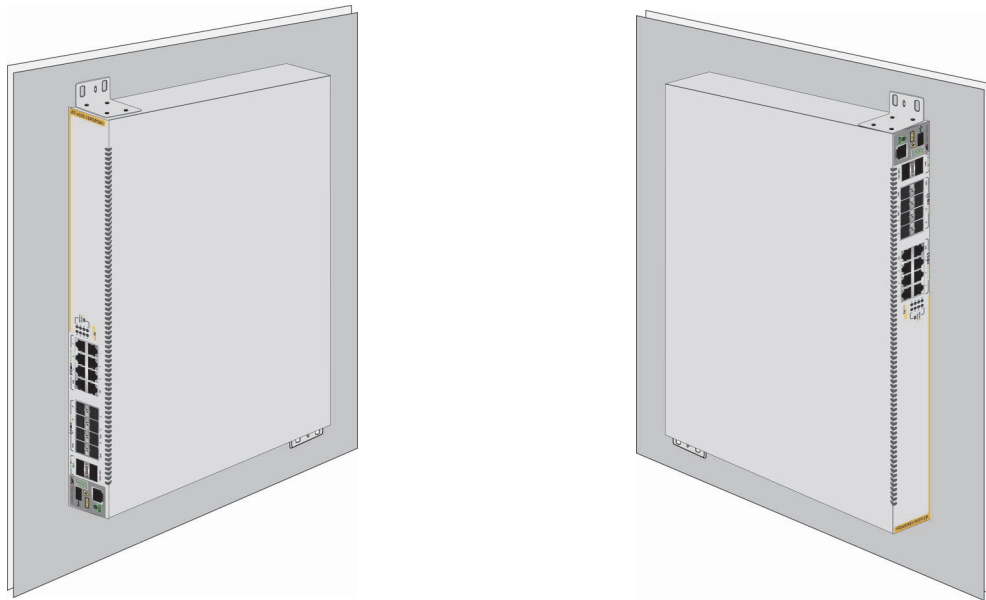

Figure 55. Positioning the Switches on the Wall
You can install the switch on a wall with the front panel on the left or right, as shown in Figure 55. Do not install it with the front panel on the top or bottom.
- ❑ Position the switch so that the front panel is either on the left or the right. Refer to Figure 55 on page 110. Do not install the switch with the front panel facing up or down.